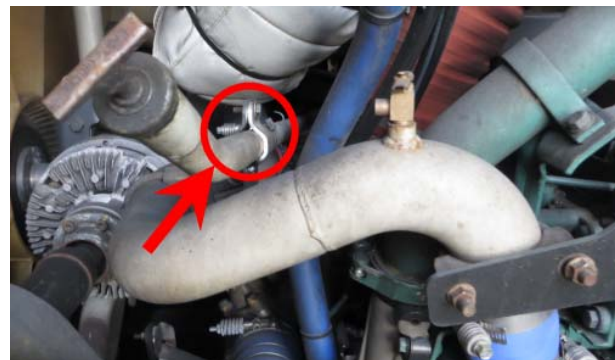

FIGURE 5: TRANSMISSION DIPSTICK TUBE CLAMP
- To ease removal, remove the transmission dipstick tube clamp identified on FIGURE 5 (see also FIGURE 6: DIPSTICK TUBE CLAMP REMOVED).